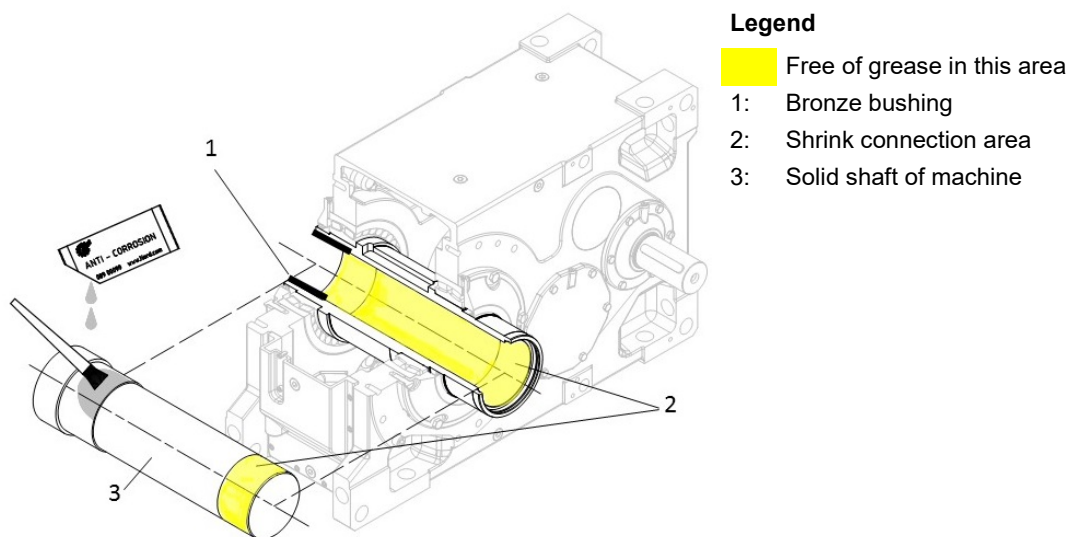

Figure 14: Machine shaft assembly for special hollow shafts with shrink discs
- b. In the case of special hollow shafts with a bronze bushing, the solid shaft of the machine must be greased in the area which will later come into contact with the bushing in the hollow shaft of the gear unit (Figure 14). It is essential that the tensioning seat of the hollow shaft is free of grease.